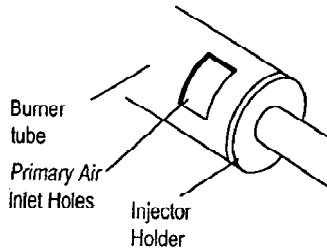

Figure 21 - Injector Holder On Outlet
2. Inspect burner, pilot and primary air inlet holes on injector holder for dust and dirt (see Figure 21).